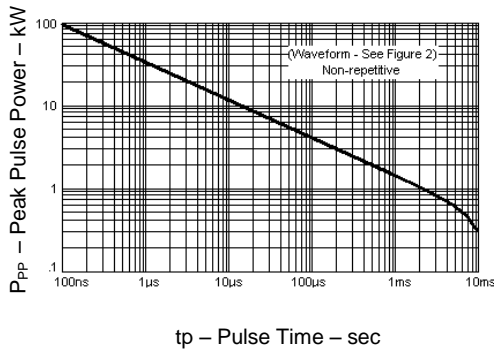

FIGURE 1 Peak Pulse Power vs. Pulse Time
- Peak Pulse Power dissipation at 25 °C: 1500 watts at 10/1000 μ s (also see Figures 1,2, and 3) with impulse repetition rate (duty factor) of 0.01 % or less